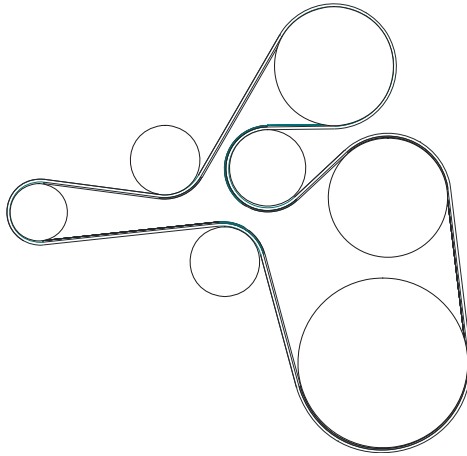

Figure 4.5
- Install the OEM accessory drive belt (Figure 4.5) and remove the locking pin from the tensioner.